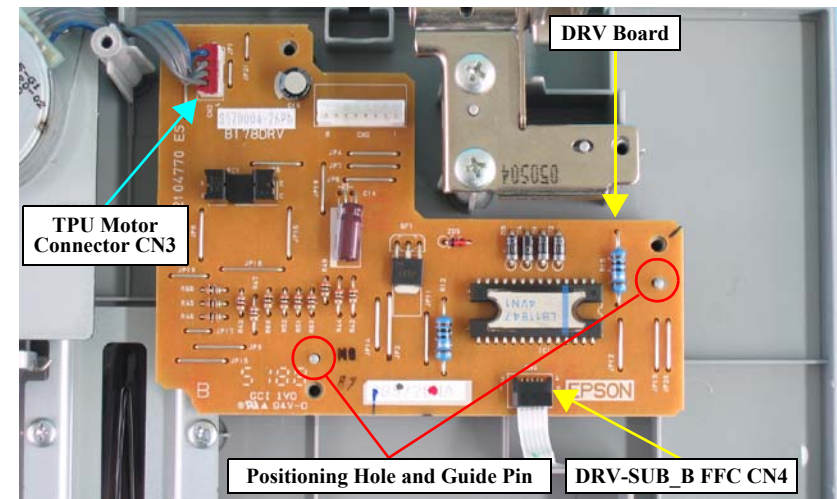

Figure 4-54. Removing the DRV Board
- When installing the DRV Board, match the positioning holes and the guide pins as shown in Figure 4-54.